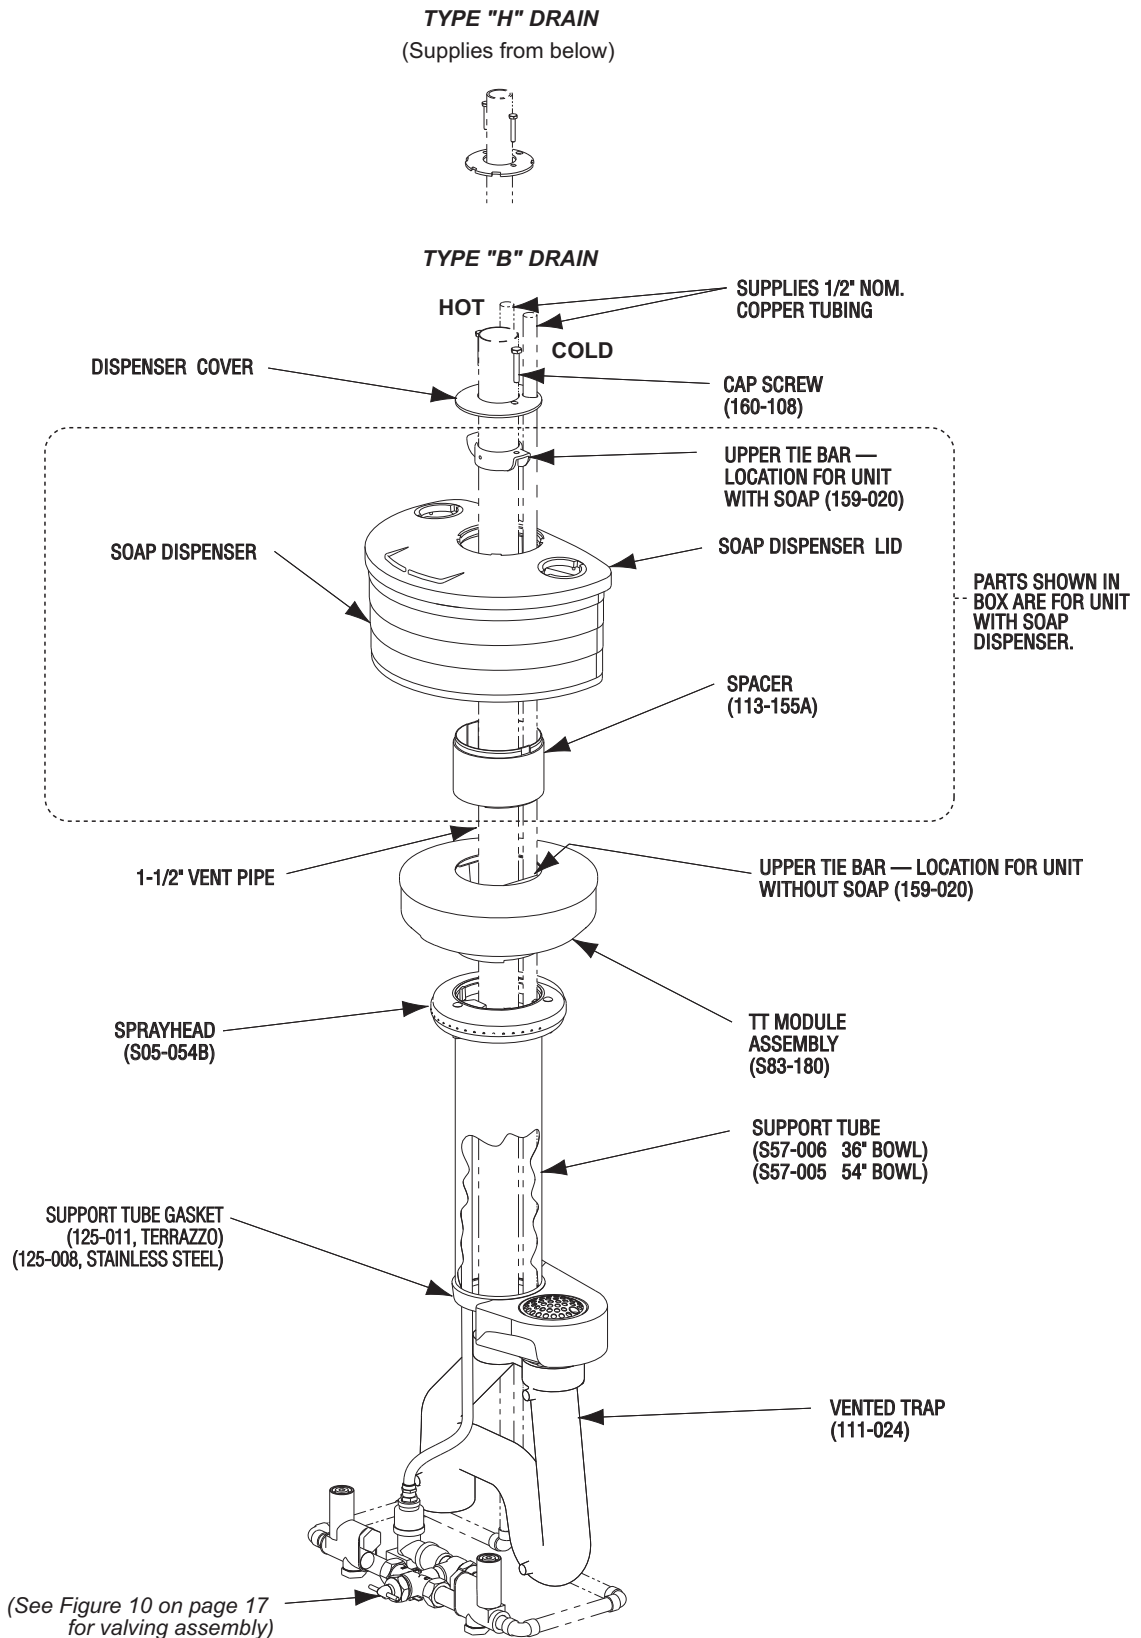

Figure 9
1. Install hemmed end (not sharp end) of support tube (welded seam toward wall) with gasket onto bowl as shown in Figure 9 on Page 16.
3. Place sprayhead with 1/2" tubing onto support tube as shown in Figure 9. Run tubing down through support tube. *Make sure spray holes point away from the wall.*
- 9a. **FOR UNITS WITH SOAP OPTION:** Place the spacer, soap dispenser and cover in position on top of Touch Time module (see Figure 9). Slide tie bar over 1-1/2" vent pipe 1/2" below top of soap dispenser lid and secure with set screws (tie bar must be parallel to wall). Slide the dispenser cover over 1-1/2" vent pipe and secure with 2 screws included with tie bar.